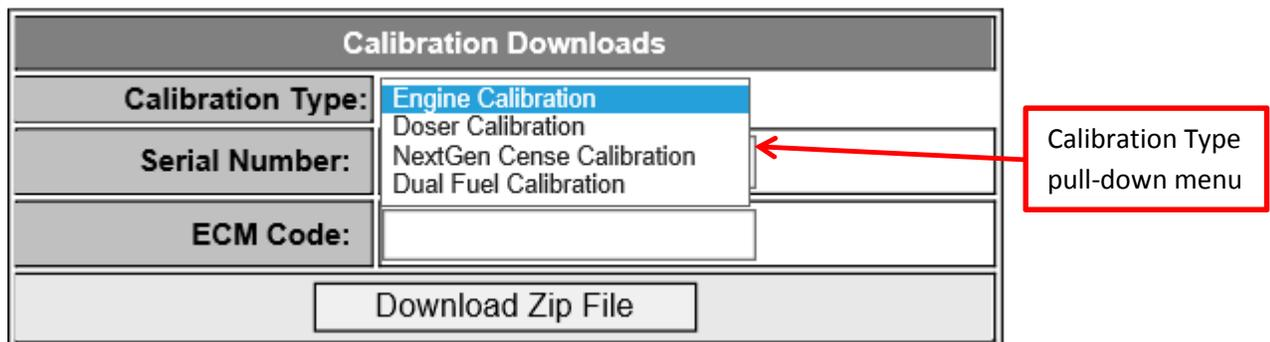

Figure 6
- When the Calibration download screen pops up, the user has the option to select Engine Calibration, Doser Calibration, NextGen Cense Calibration, or Dual Fuel Calibration in the Calibration Type pull-down menu (Figure 6).